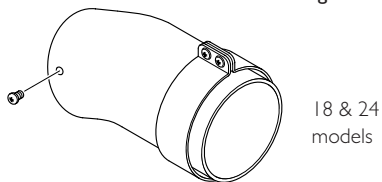

Fig. 53
7. Note the positions of the sensing tube(s) (28 HE has two - one tube on 18 & 24 HE) on the fan spigot and three wires on the fan motor and remove them (Fig. 53).